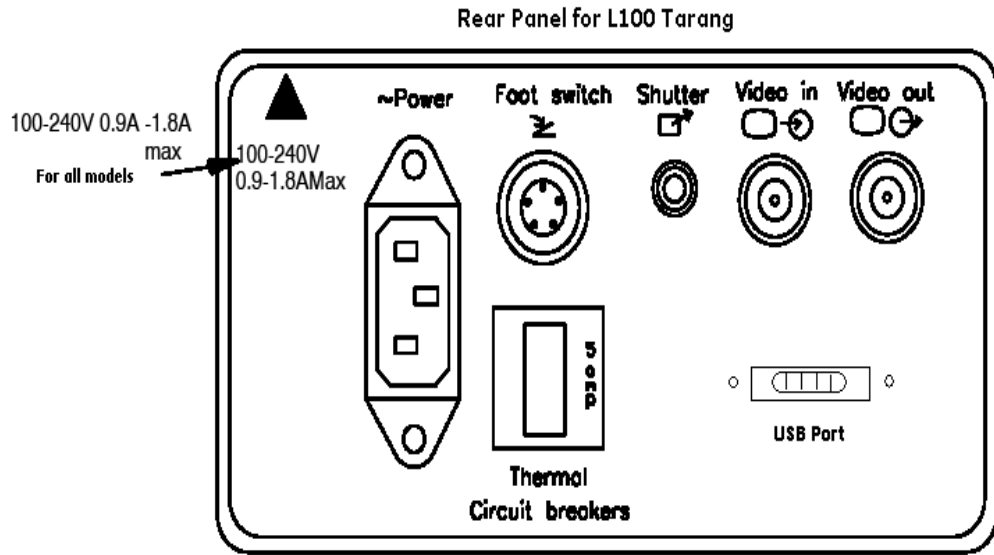

Figure 3-5 Installation of Accessories
- 1.) Unpack the foot switch and connect it to the connector on the rear panel. (Refer Figure 3-5)